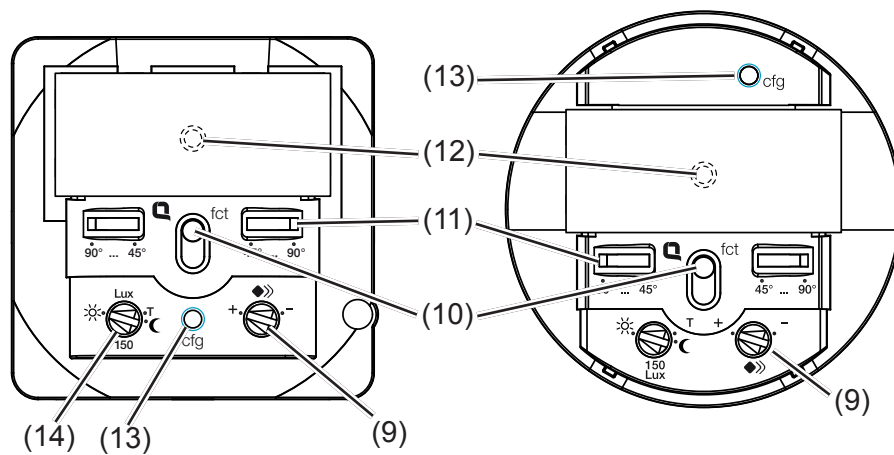
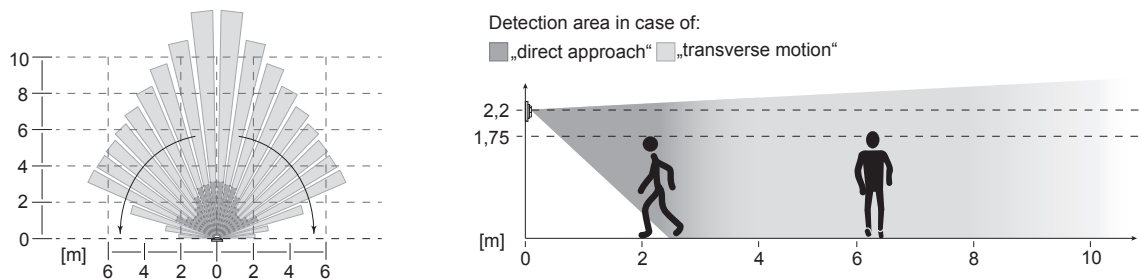

Fig. 5: Operating and adjustment elements of the bottom part of the application module
Figure 7: detection area of the motion detector for mounting height 2.2 m
The detection angle can be restricted for the right side and for the left side via each adjuster (Fig. 5, 10) between  $45^\circ$  ...  $90^\circ$ . Thus the detection angle can be between  $90^\circ$  and  $180^\circ$  (Fig. 7).
- Setting the test mode. To do so, set the response brightness potentiometer (Fig. 5, 13) to the T position.
- Turn the response brightness potentiometer (Fig. 5, 13) to the desired position.
- Turn the sensitivity potentiometer (Fig. 5, 9) to the desired position.